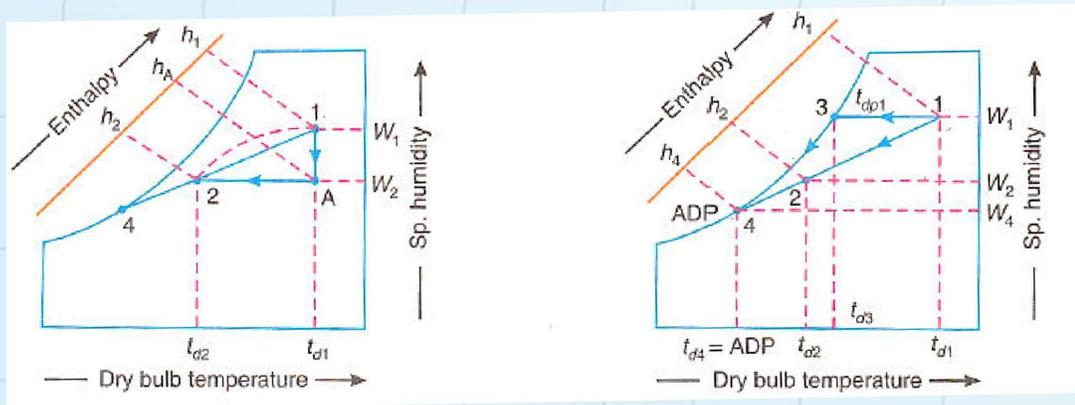

Fig.2.9 – Cooling and dehumidification
- ▶ When the effective surface temperature of the cooling coil (i.e. t_{d4}) is less than the dew point temperature of the air entering the coil (i.e. t_{dp1}) then air is *cooled and humidified*. ($t_{d4} < t_{dp1}$) as shown in Fig. 2.9.
- ▶ In this process; both *dry bulb temperature* (t_a) and the *specific humidity* (W) of air decreases but the relative humidity of the air is increases.
- ▶ The cooling and dehumidification process shown by a **line 1-2** to be followed a **path 1-A** dehumidification and **path A-2** cooling as shown in Fig. 2.9.